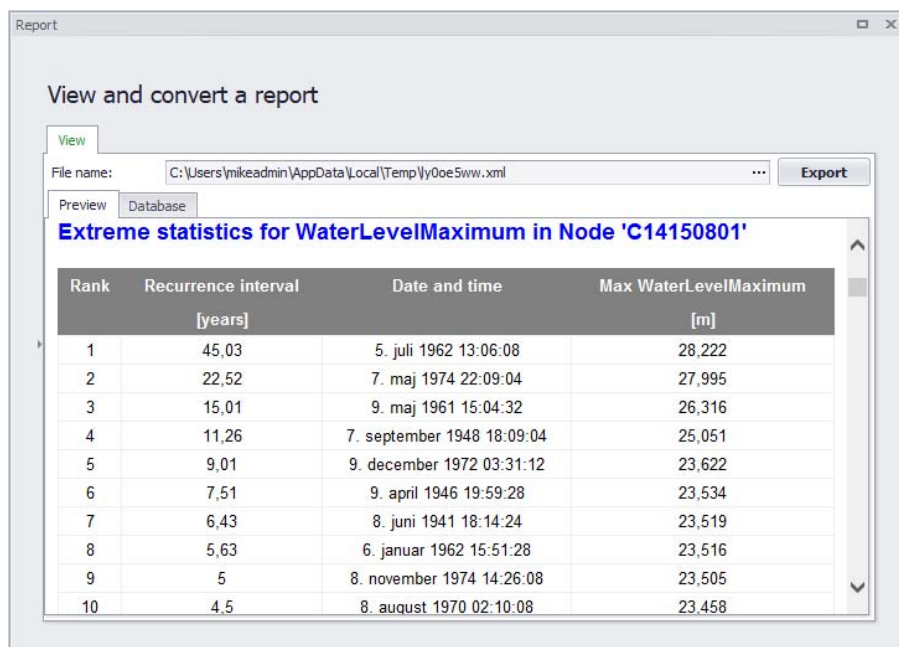

Figure 20.74 Example detailed LTS extreme event statistics report
- Click on the 'OK' button to create a new Detailed LTS Extreme Event Statistics report. An example is shown in Figure 20.74.